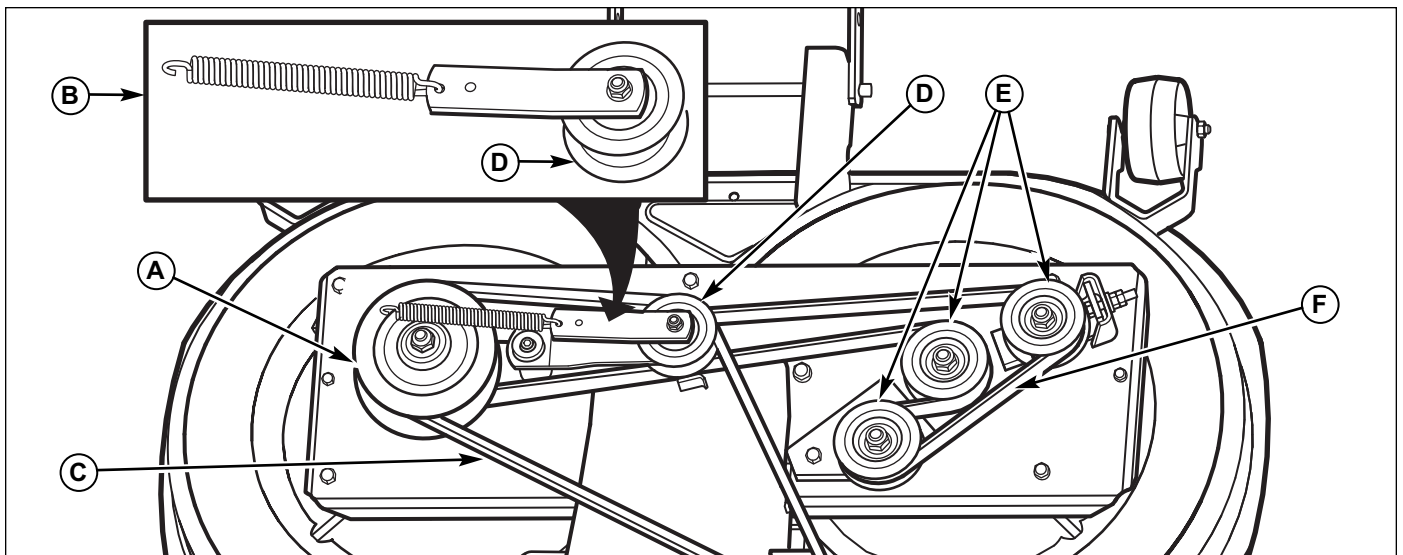

Figure 41. Mower Belt Replacement
3. Remove the belt cover for the PTO pulley (A, Figure 41).
4. Remove idler assembly (B) and mower arbor drive belt (C).
5. Remove PTO pulley (A) and idler pulley (D) from the belt cover.
6. Remove the mower belt cover to access the mower pulleys (E) and mower belt (F).
7. Remove the old belt and replace with a new belt. Route the belt as shown in Figure 41.